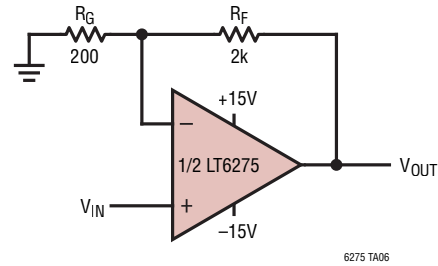

Figure 1. LT6275 Configured in a Noninverting Gain of  $A_V = +11V/V$
Figure 1 shows a noninverting amplifier with closed-loop gain of 11V/V. The closed-loop bandwidth of this amplifier is approximately GBW/11 (GBW = Gain-Bandwidth Product). For a step input, the output follows an exponential curve:
Figure 5 shows the output step response of the composite amplifier (measured at the output of the LT6275) at many different amplitudes. At 15V output excursion, the initial slope is measured to be 725V/μs. This slope is faster than the 390V/μs measured with a 15V output excursion using the simple noninverting amplifier of Figure 1. According to Equation (3), this improvement has been made possible because the effective bandwidth of the composite amplifier is higher (and thus has a lower  $\tau_o$ ), as intended.